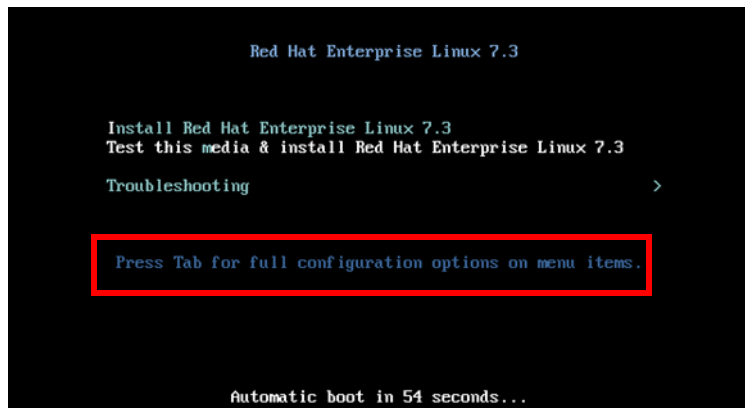

Figure 6-54 Press tab to access the configuration menu
9. Press the Tab key to get to the full configuration boot options menu, as shown in Figure 6-54. This is necessary to add the grub installation line that will point to the 2nd ISO driver file that was mounted previously.